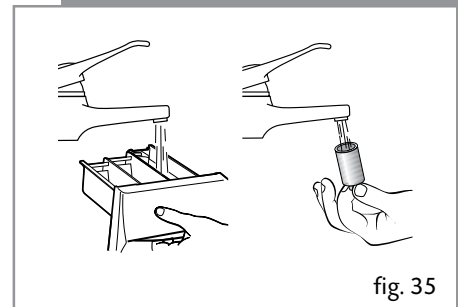

fig. 35
- Use warm water and a brush to clean the compartments (Figure 35).
- Also clean the additive compartment siphons, having removed them first. Once they have been cleaned, put them back making sure that they fit right in to the back (Figure 35).